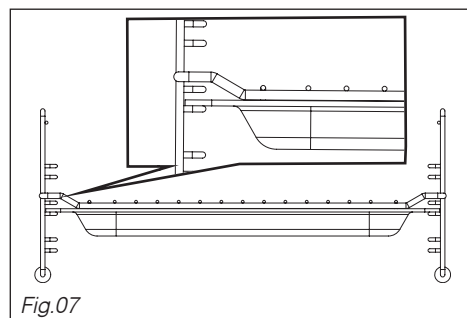

Fig.07
• **The grill + the glass drip tray:** for roasting and to recover cooking juices, place the grill on the drip tray (Fig.07).